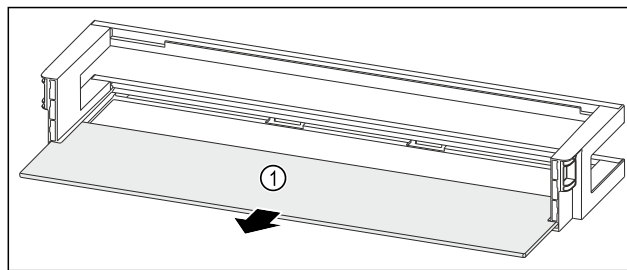

Fig. 238 Door rack with shelf
- Remove the shelf Fig. 238 (1).